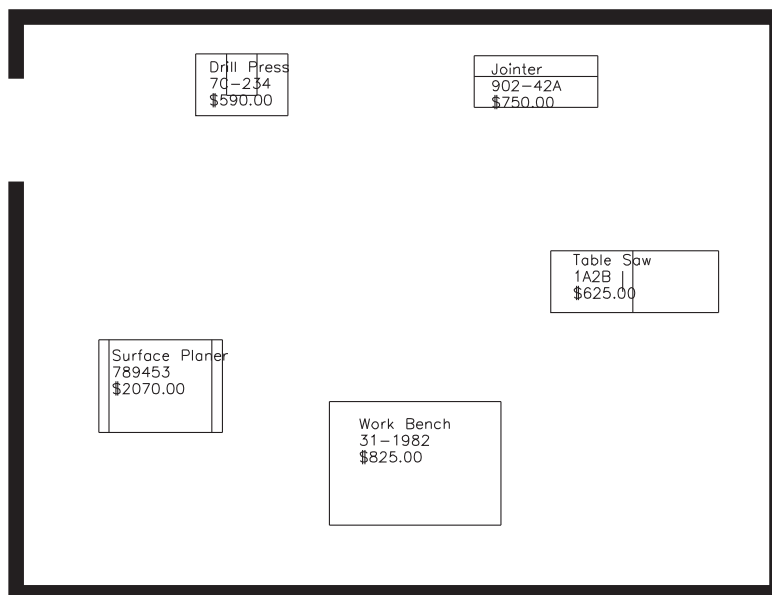

Fig. 37-1
3. Create the four walls of a workshop (fill the upper two-thirds of the drawing area) and insert each of the blocks on layer **Objects** as shown in Fig. 37-1 on page 492.
Each of the tools contains attributes, as shown in Fig. 37-1.